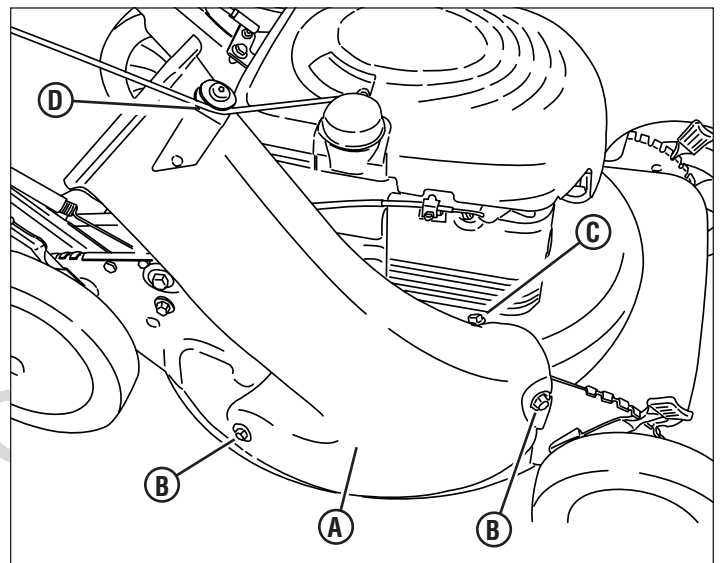

Figure 14
1. Install the grass bag adapter (A, Figure 14) and secure to the side and top of the deck with the two nuts (B) provided with the machine.